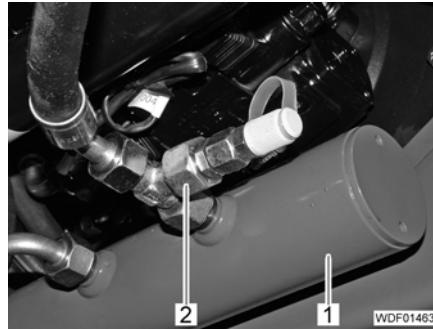

Fig. 40 Test connection  $P_H$
- Install T-coupling with test adapter (Fig. 40,2) in the hydraulic line between gear pump and pulsation damper (Fig. 40,1).